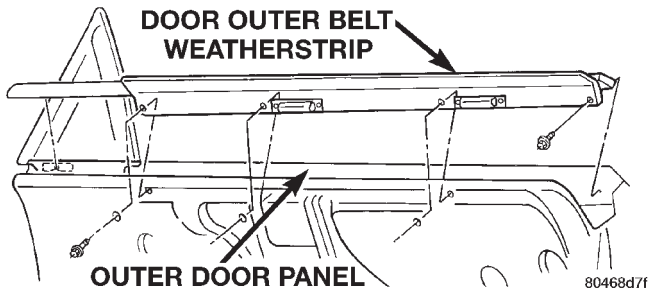

Fig. 37 Door Outer Belt Weatherstrip
- (1) Remove door glass.
- (2) Remove screws holding outer belt weatherstrip to outer door panel (Fig. 37).